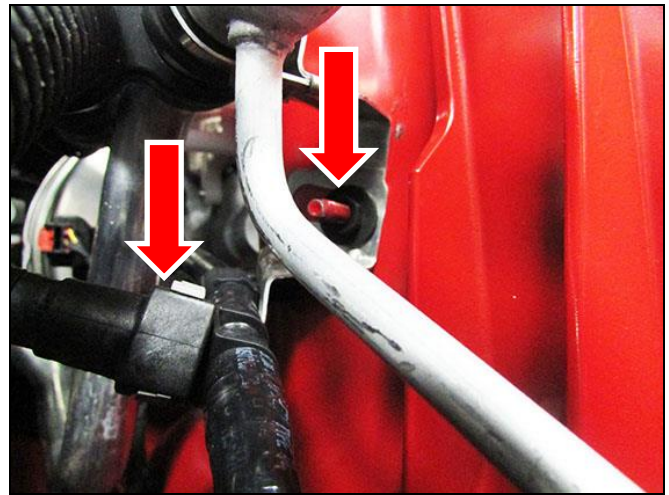

Figure 8
15. Remove the (x2) 10mm head nuts securing the A/C line to the chassis. Unplug hose on **Figure 8**.
32. Using the (x2) 10mm head nuts removed from step 15, secure the A/C line back onto the chassis and plug the hose back from **Figure 8**.